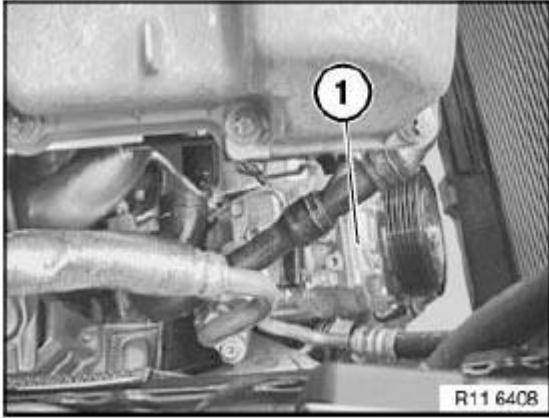

Fig. 7: Identifying Air Conditioning Compressor
Release air-conditioning compressor (1) and set down on front axle carrier. See **Fig. 7**.